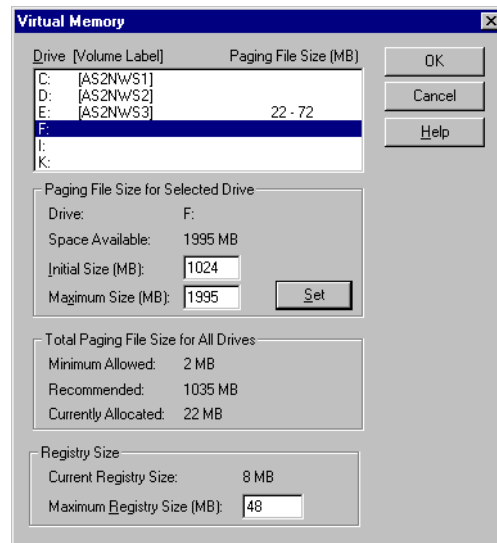

Figure 47. Setting Paging File Size on the Deployment Server
6. Set the Maximum Size to around double the Initial Size. Take care not to set the maximum number too high on systems where there is limited overall disk space, since this will have a negative affect on system performance. The display will appear similar to the example in Figure 47.